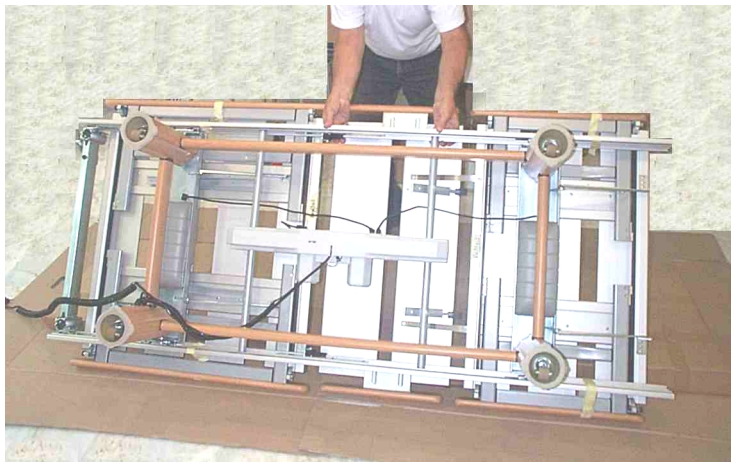

Figure 25
- Secure with spring cap (see Figure 19). Use flat-nosed or forged groove joint pliers to press the spring cap on to its location (see Figure 25).
- Use flat-nosed or forged groove joint pliers to press the spring cap on to its location (see Figure 25).